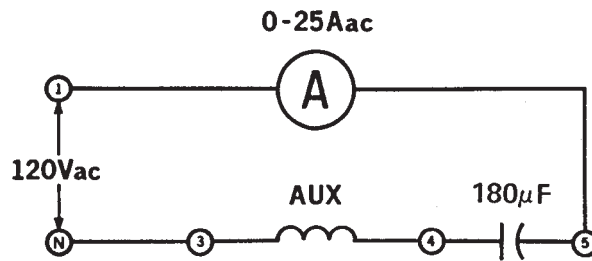

Figure 11-2.
- 3. a. Disconnect the leads from the main winding and connect them to the auxiliary winding and capacitor, as shown in Figure 11-2.